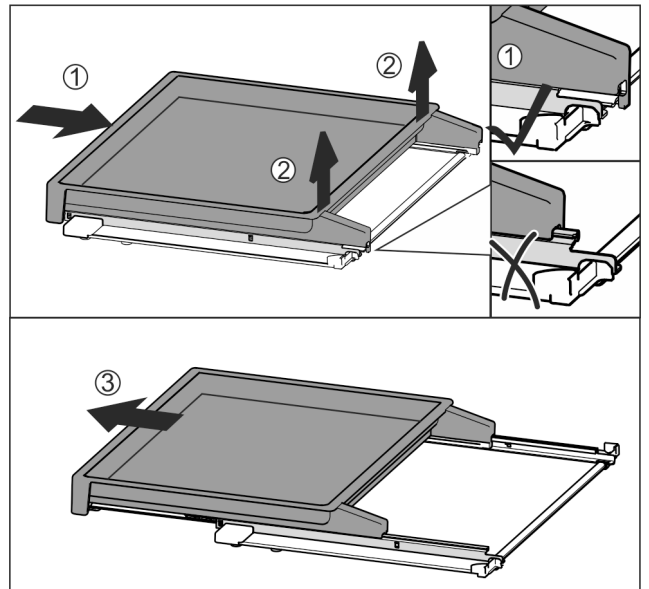

Fig. 114
- Slide the pull-out board all the way in Fig. 114 (1).
- Release the clips at the back Fig. 114 (2).
- Remove the pull-out board from the front Fig. 114 (3).